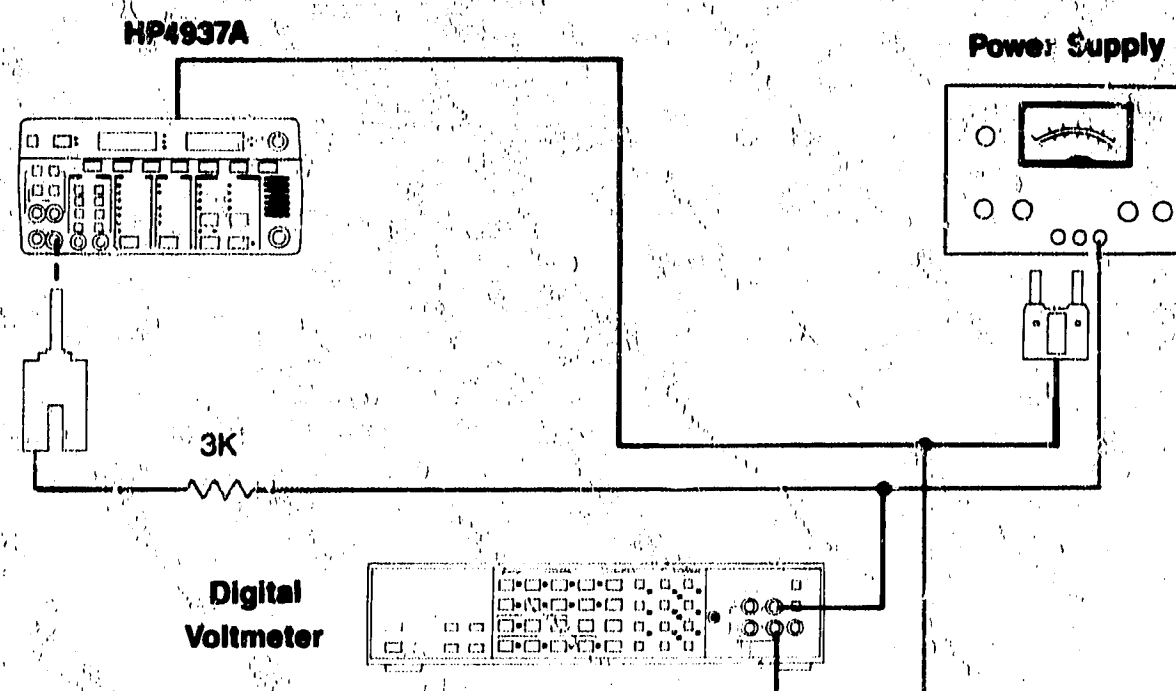

Figure 4-17A. E/M Signaling Type III
6. Connect the equipment as shown in Figure 4-17A. (The HP 4937A ground connection is on the rear panel.)